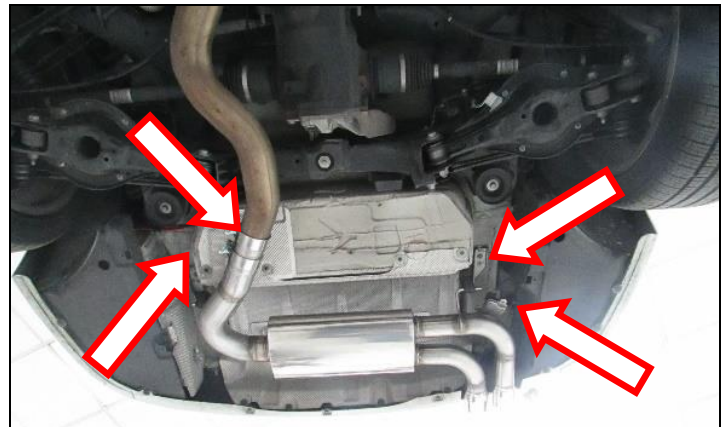

**Figure 7**
2. Slide (x1) 3" band clamp on the adapter pipe and tighten (**Figure 7**).